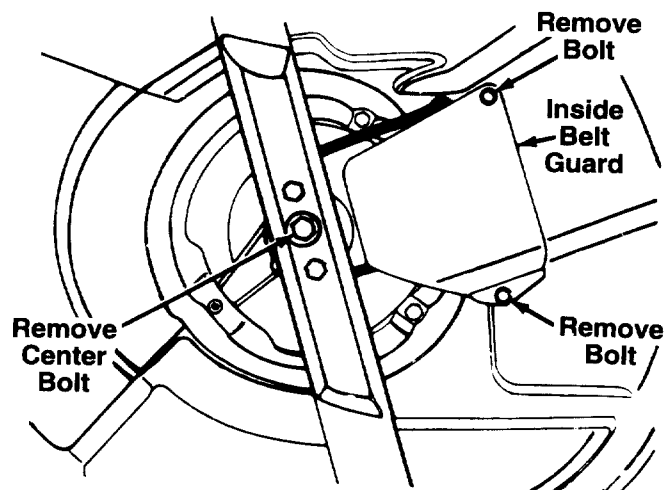

FIGURE 14.
6. Remove the inside belt guard by removing two self-tapping screws. A 3/8" wrench is required. See figure 14.